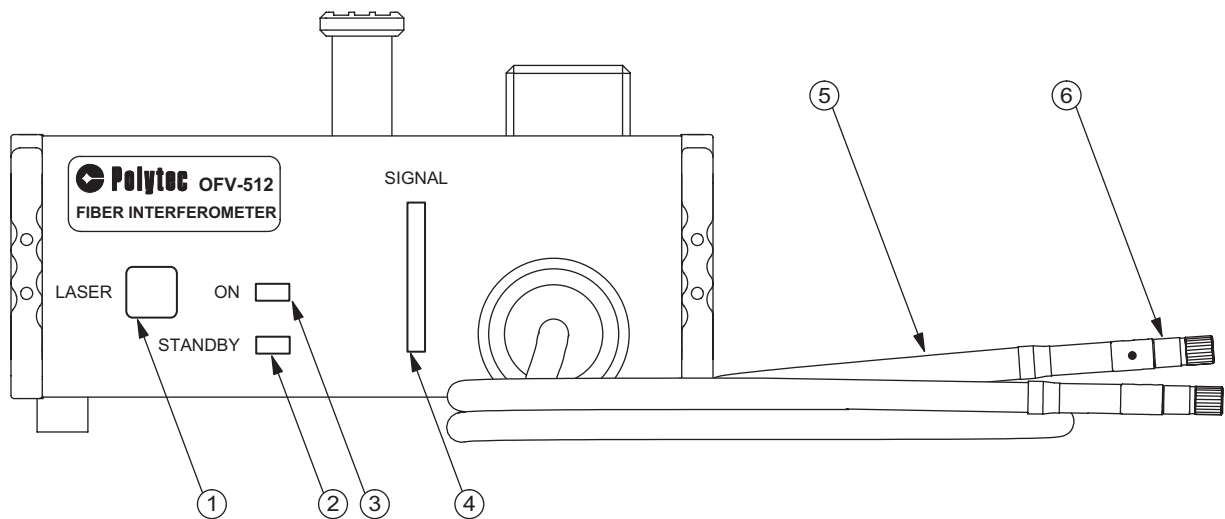

Figure 2.3: Front view of the sensor head OFV-512
**Front panel** The front panel of the sensor head OFV-512 is shown in figure 2.3.